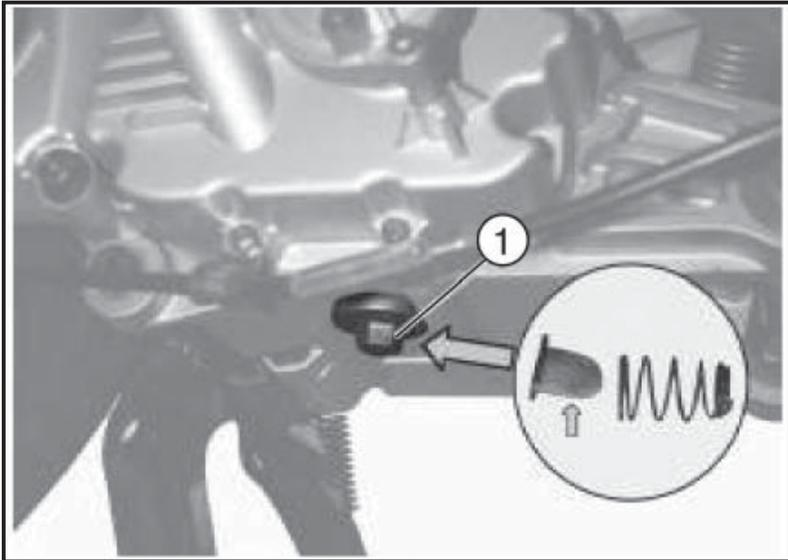

Fig. 01
CHANGE (Fig. 01)
- Unscrew the drainage plug «1 - Fig 01», recover the spring and mesh filter and let all the oil flow out into a sufficiently large receptacle; remove the cartridge oil filter «2 - Fig. 02» and replace it with a new one.